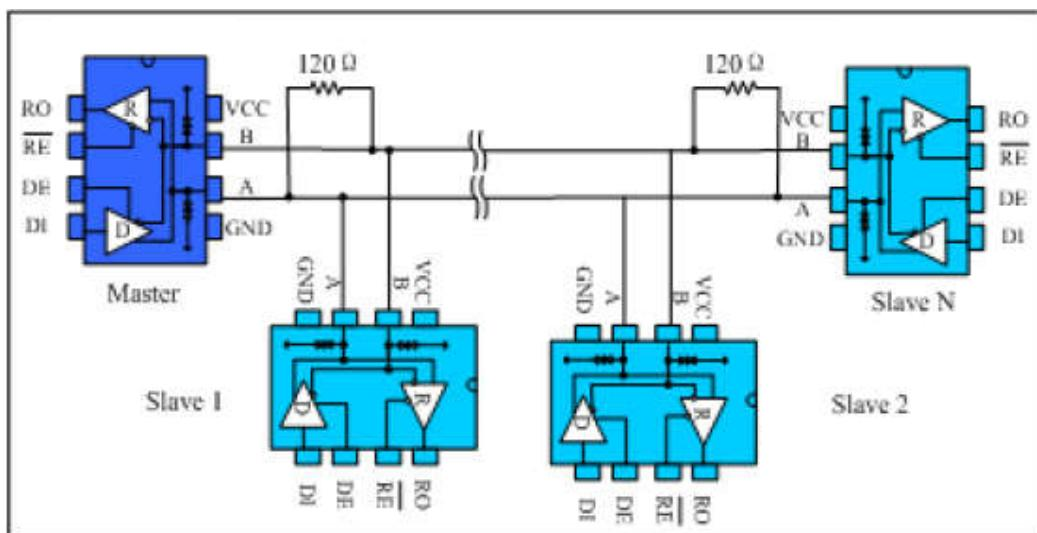

Fig. 9 Bus-type RS485 half-duplex communication network
4.1 **Bus networking:** The SP3485EEN-EV RS485 transceiver is designed for bidirectional data communication on multi-point bus transmission lines. Figure 9 shows a typical network application circuit. These devices can also be used as linear repeaters with cables longer than 4000 feet. In order to reduce reflections, terminal matching should be done at both ends of the transmission line with their characteristic impedance, and the length of the branch wires other than the main line should be as short as possible.